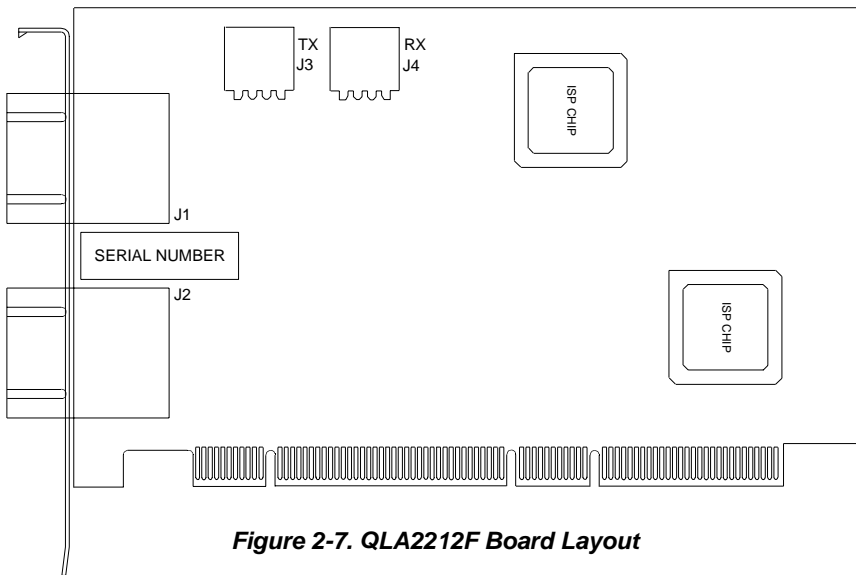

Figure 2-7. QLA2212F Board Layout
- One of the following cables for each of the three-position point-to-point adapters on the QLA2212F board (J3 and J4; see figure 2-7):